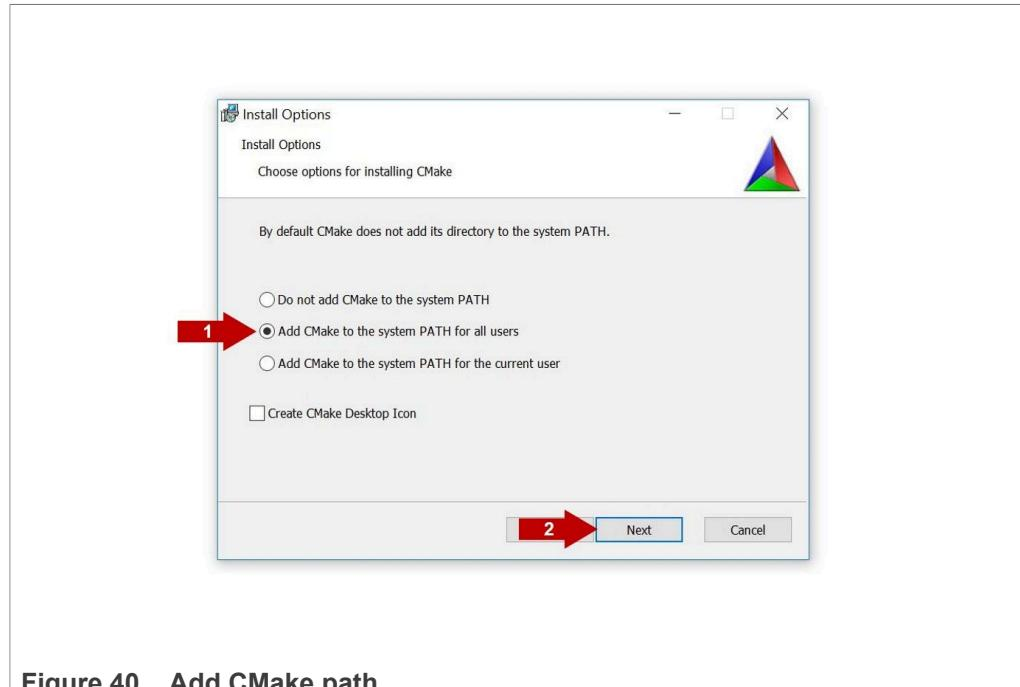

Figure 40. Add CMake path
6. As part of the CMake setup, (1) **Add Cmake to the system PATH for all users** and (2) click **Next** as shown in Figure 40: